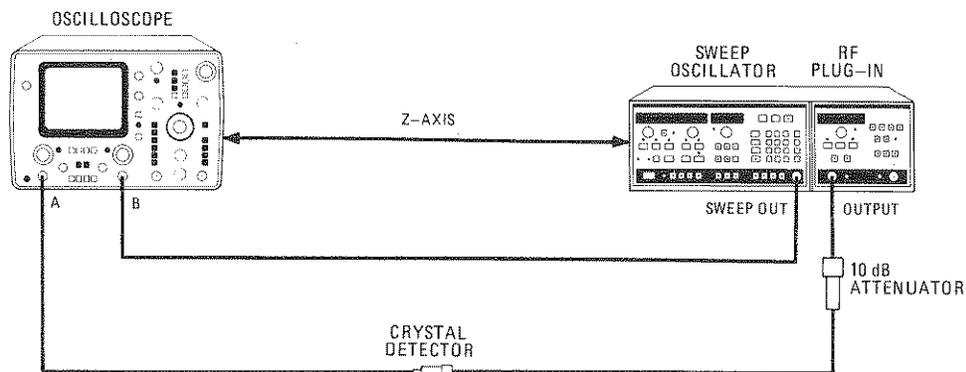

Figure 4-1. Crystal Marker Test Setup
1. Connect equipment as shown in Figure 4-1.